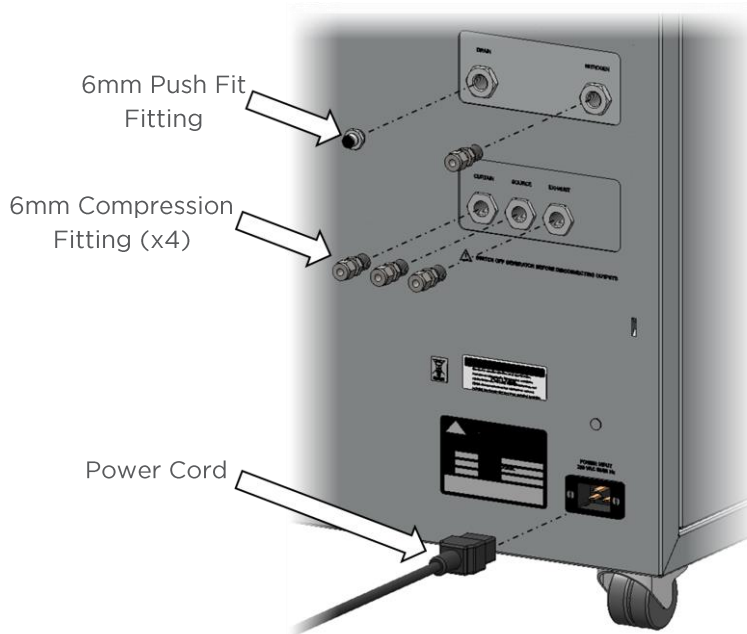

Figure 3: Rear Connections
Fit the 6mm push fit fitting (item 2 from fittings kit) to the drain port located on the output panel (see Figure 3). Tighten using a 16mm or 5/8" spanner. Use the 6mm tubing (item 4 from fittings kit) to connect this to a suitable drain connection or container. It should be noted that the Generator can expel a considerable amount of water from this (dependant on ambient humidity).